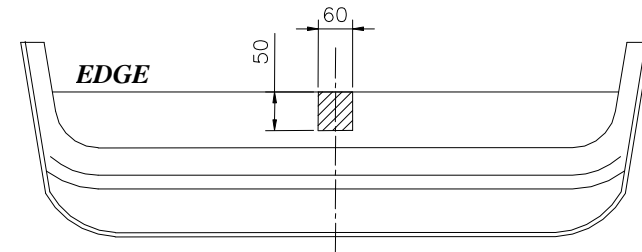

Fig. 2
4. Put main bar of the towbar (pos. 1) to chassis members and fix it using bolts M12x40mm (pos. 7) through original holes in members. Elements (pos. 4) slide through holes in rear slice.
6. Assemble the bumper after cut out fragment according to figure 2.
7. Fix tow-ball (pos. 2) and socket plate (pos. 3) by bolts M12x75mm (pos. 5) and M12x70mm (pos. 6) from accessories.